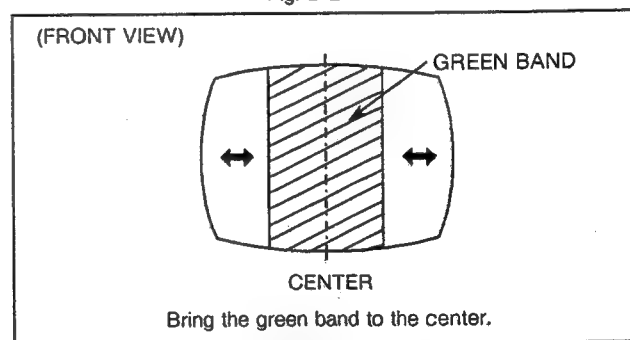

Fig. B-3
4. Turn the GREEN CUT-OFF VR to maximum and the RED and BLUE CUT-OFF VRs to minimum. Then adjust the SCREEN VR so that the green band can be seen best. (Fig. B-3 )